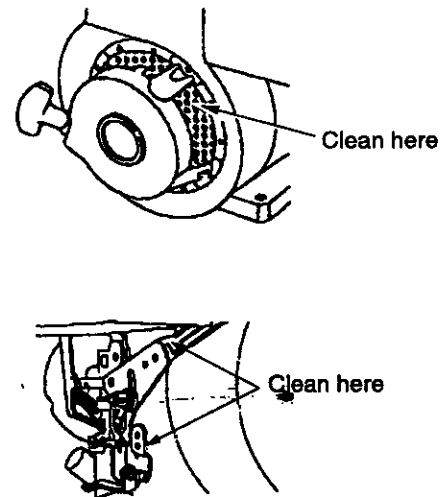

Figure 15
- Frequently remove grass clippings, dirt and debris from cooling fins, air intake screen and levers and linkage. This will help ensure adequate cooling and correct engine speed. See Figure 15.
- Yearly or every 25 hours, whichever occurs first, remove the blower housing and clean the areas shown in Figure 15 to avoid overspeeding, overheating and engine damage. Clean more often if necessary.